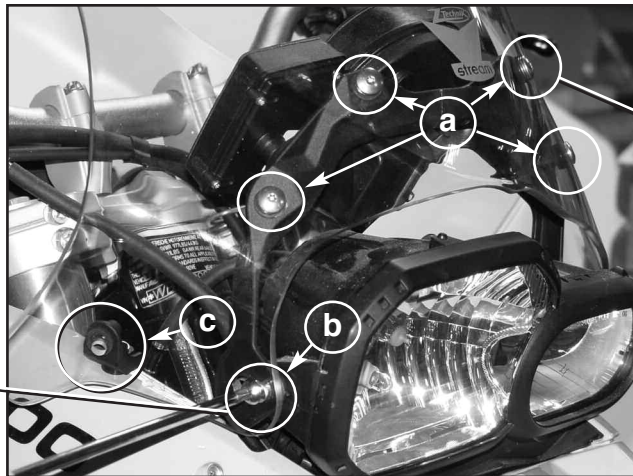

Figure 4
**2013 and later models:** When installing the VStream Windscreen at Point (a) **Do Not** use the stock black washers. Use supplied Black Top Hat (6) with stock screws.
3. Loosely install the four upper screw assemblies at point (a). **(T25) Figure 4**
5. Loosely install the Swivel Mount Screw at point (c). **(T25) Figure 4**